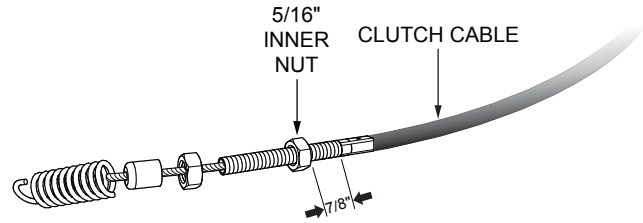

Figure 16. Inner Nut Adjustment
7. Adjust the 5/16" inner nut (Figure 16) until there is a distance of 7/8 inch from the threaded end of the clutch cable to the inner nut.